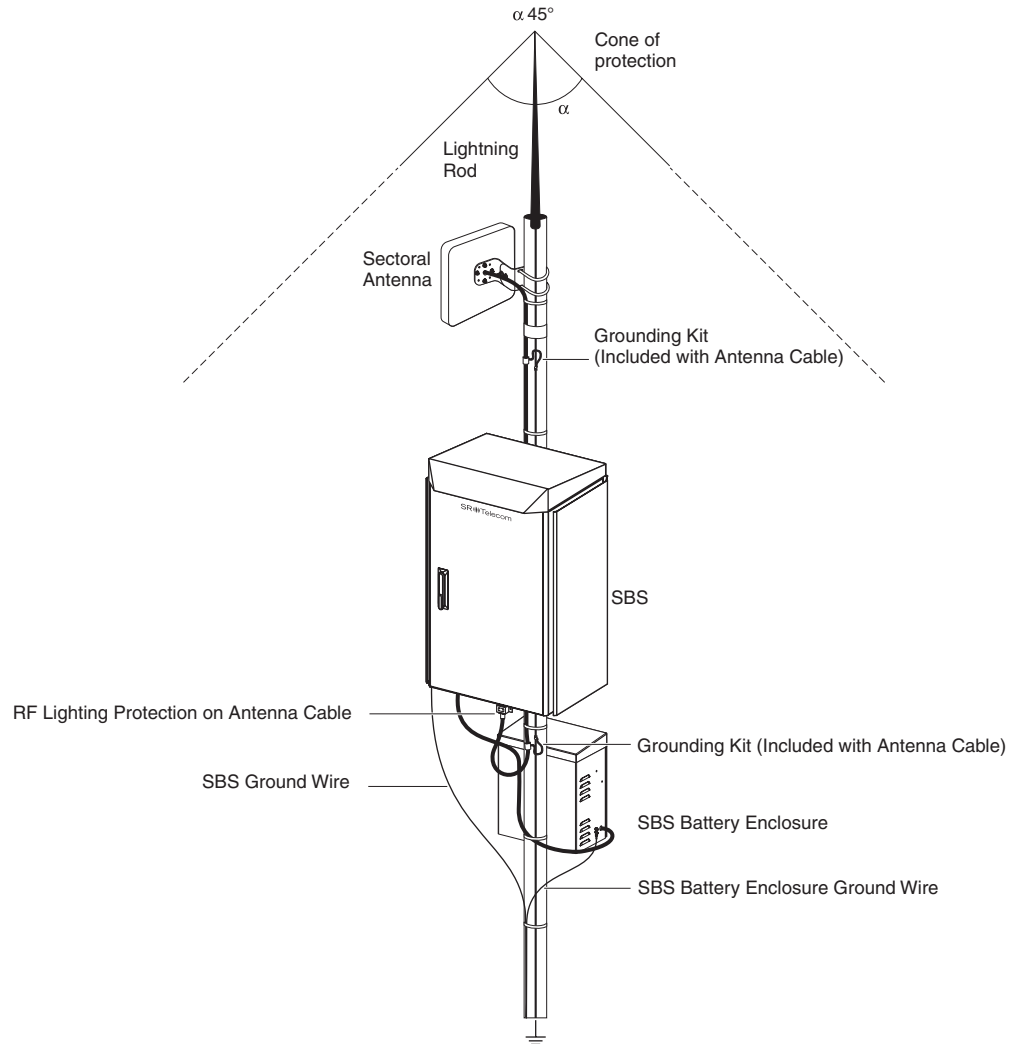

Figure 3.5 SBS Grounding Example Change
1. Install a Grounding Kit below the top curve of the antenna cable, as shown in Figure 3.5 on page 29.